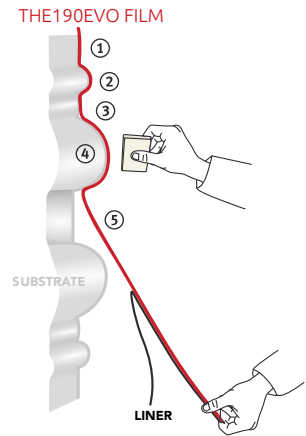

Figure 06
- › Gradually remove the liner while pulling it downward. (FIG. 06)
- › Start by applying the hollow ①, then the peak ② and finally the hollow ③
- › Continue onto the next undulation ④, then keep going ⑤ until completion of the application.